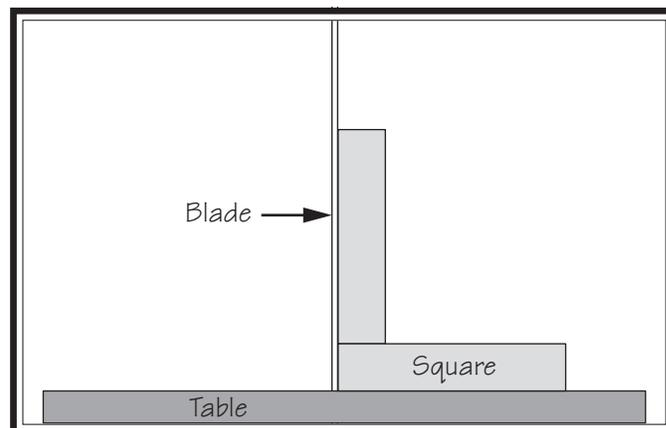

Figure 110. Adjusting table perpendicular to blade (side to side).
2. Place one edge of square on table and other edge of square against blade side, as shown in **Figure 110**.